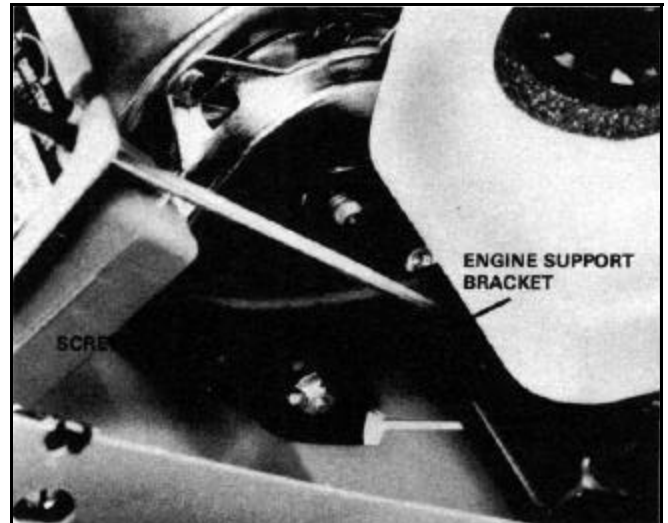

Figure 129
3. Remove the flange nut and cap screw at the base of the engine support bracket refer to (Figure 129).